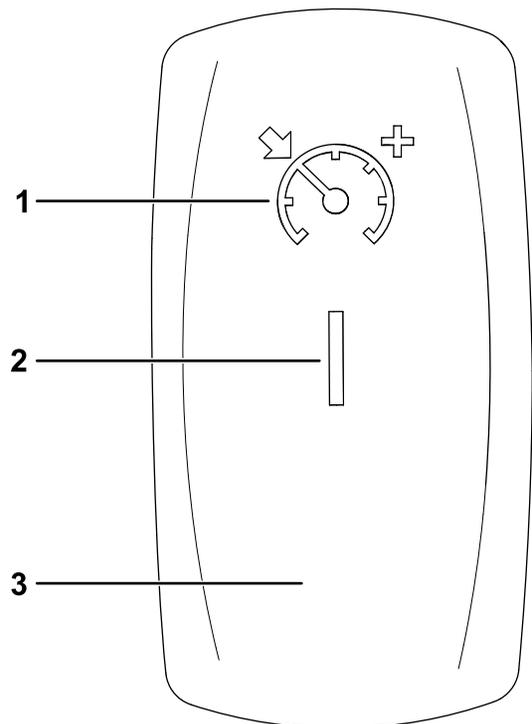

Figure 15
1. Move the cruise-control switch to the ON position (Figure 15).
2. When you reach the desired drive speed, press the cruise-control switch up to engage/set the cruise control (Figure 15).
To increase the cruise control speed, press the switch up until you reach the desired speed (Figure 15).
To disengage cruise control, press the switch to the down, OFF position (Figure 15).